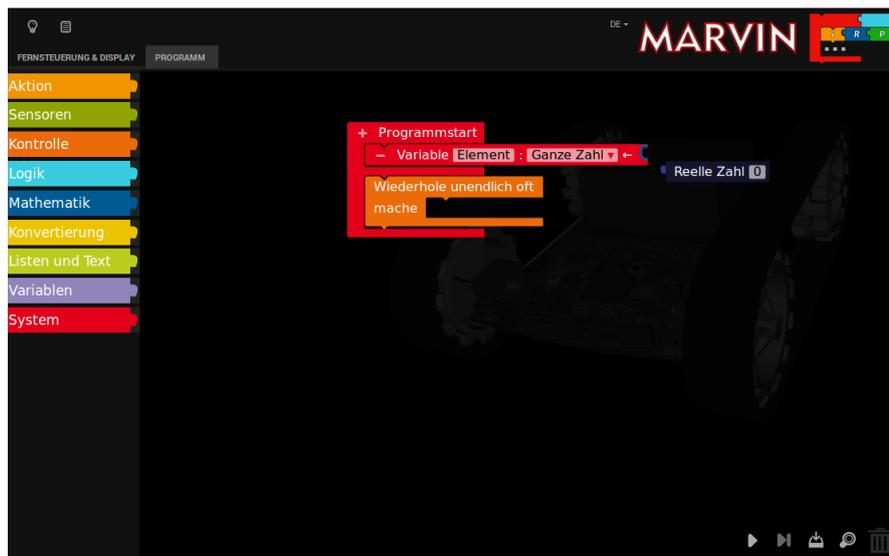

Figure 3.4 Mismatch of block types in iRP
- If blocks are not logical matching, you can not attach them to the other block. In the example, the block “real number” does not logically match to a “integer” (Figure 3.4).